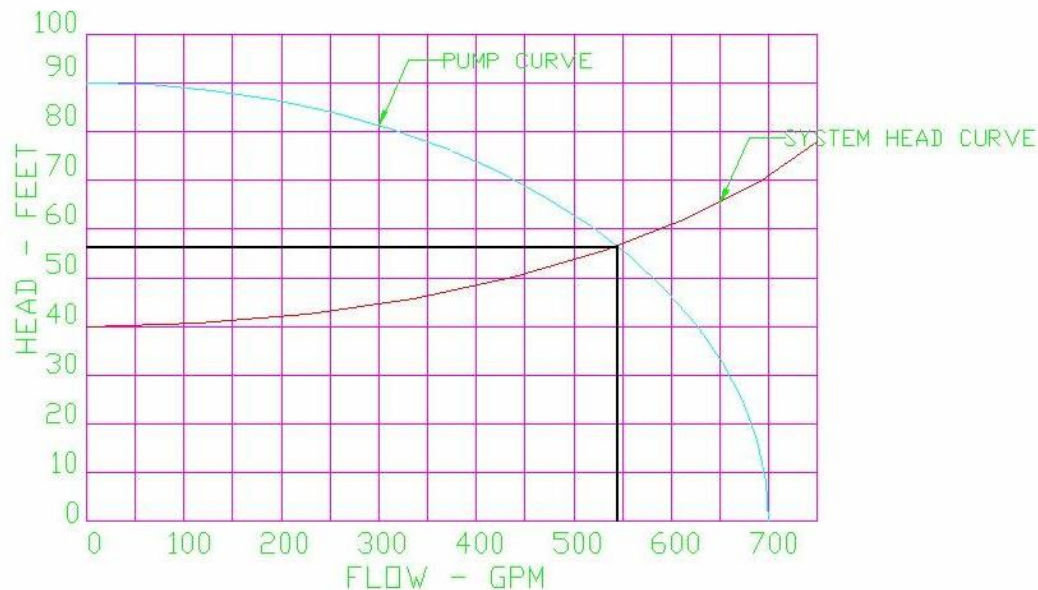

Figure 4.5 Estimating pumping rate
- In the example in Figure 4.5, the pump would operate at about 540 gpm and 56 feet of head.